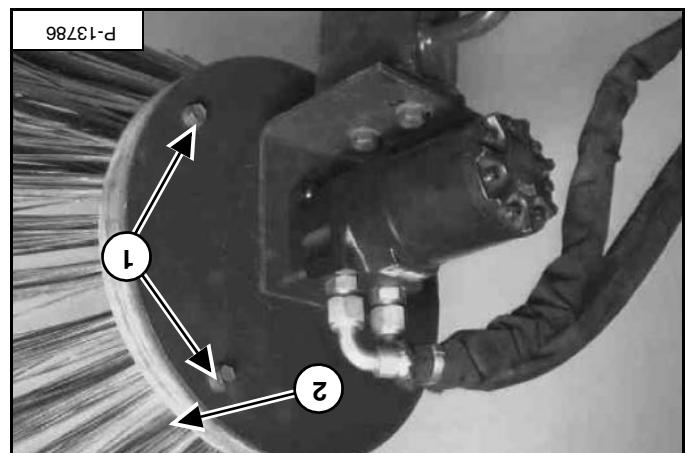

Figure 139
Installation: Install the bristle assembly (item 2) [Figure 139] and tighten the four mounting bolts (item 1) [Figure 139] to 34 - 38 N·m (25 - 28 ft-lb) torque.
Remove the four mounting bolts (item 1) and remove the bristle assembly (item 2) [Figure 139].